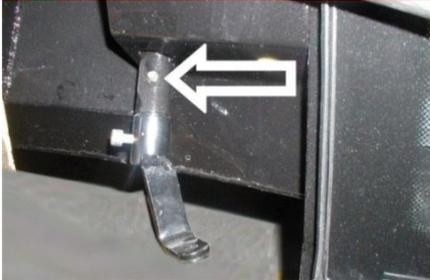

Fig. 5.8. Reverse pivot sleeves grease point.
- reverse pivot sleeves (Fig. 5.8.) – upper sleeve is accessible after opened tractor bonnet and lower sleeve is accessible after removed steering column LHS cover